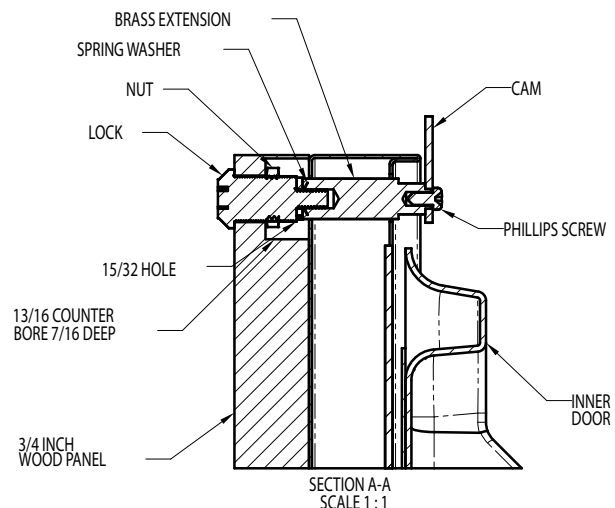

Figure 9
Locate and mark with a pencil the location of the lock hole on the overlay panel, this is the hole in the top corner of the handle side of the door. Remove the clamp and remove the overlay panel from the door. On the backside of the panel where you marked the lock location drill a 13/16" (20.5mm) diameter counterbore 7/16" (11.0mm) deep into the overlay panel. Drill a 15/32" (12.0mm) diameter hole through the overlay panel centered on the counterbore being careful not to splinter the wood on the face side of the panel. (See Figure 9).
Two (2) lock extensions are supplied with the lock. Use the longer extension for a 3/4" thick overlay panel and the shorter one for a 5/8" thick panel. Assemble the lock extension, cam stop washer, spring washer, and set screw to the lock as shown in Figure 9 and 10.